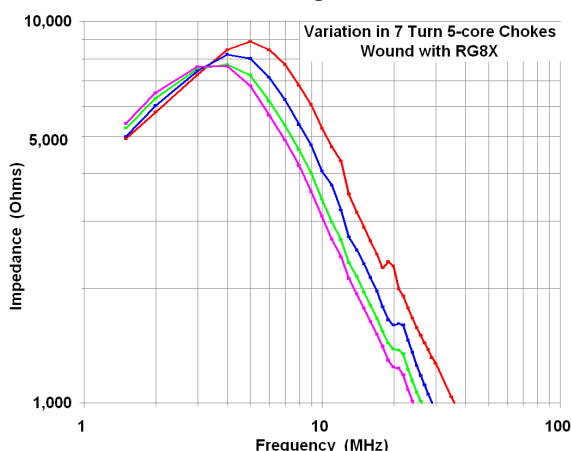

Fig 44 – Variation of chokes with winding style, coax outer jacket material
**Your Mileage Will Vary** Fig 44 shows the variation in impedance that can occur based on the details of how the choke is wound, and on the jacket material. The magenta curve is for a choke whose turns are tightly bunched together both inside and outside the toroids. Both the stray capacitance and the inductance of the coax are maximized (for a given number of turns and winding diameter). The other three curves are for chokes whose turns are intentionally spread wide apart outside the toroids. One of them uses somewhat larger diameter turns and a different type of RG8X. Capacitance is a function of spacing, geometry, and the dielectric material. The diameter of the shield, as well as the thickness and permittivity of the jacket material all can cause variations in the capacitance. In all of the measurements, I saw the greatest unintentional variation from one to another with chokes having a lot of turns of RG8X, and the least with those wound using RG8.